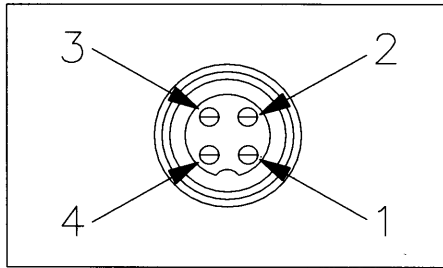

Fig. 3 Microphone plug pin numbers viewed from rear of pin receptacle.
- 5. The wires must now be soldered to the pins as indicated in the above wiring tables. If a vise or clamping tool is available, it should be used to hold the pin receptacle body during the soldering operation, so that both hands are free to perform the soldering. If a vise or clamping tool is not available, the pin receptacle body can be held in a stationary position by inserting it into the microphone jack on the front panel. The numbers of the microphone plug are shown in Fig. 3, as viewed from the back of the plug. Before soldering the wire to the pins, pre-tin the wire receptacle of each pin of the plug.